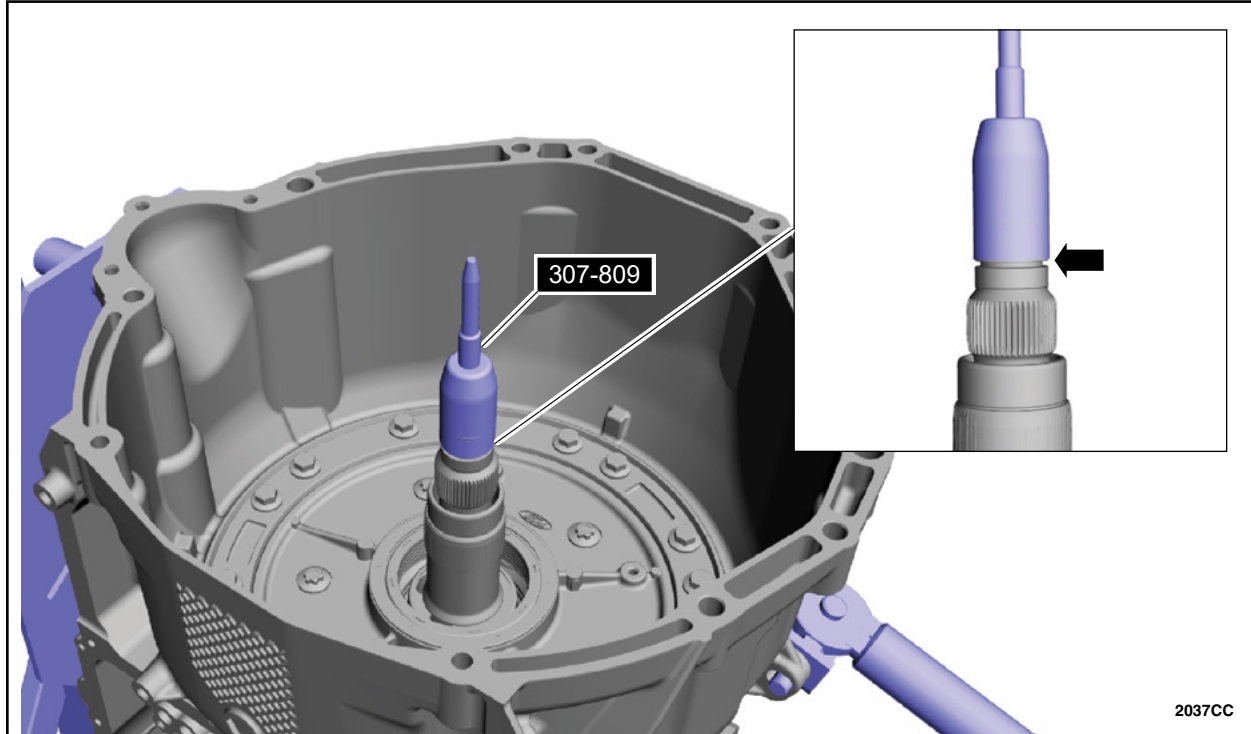

FIGURE 22
24. Install special tool 307-809 and adjust it to align the bottom edge of the tool with the top end of the groove of the Teflon® seal being replaced. See Figure 22.